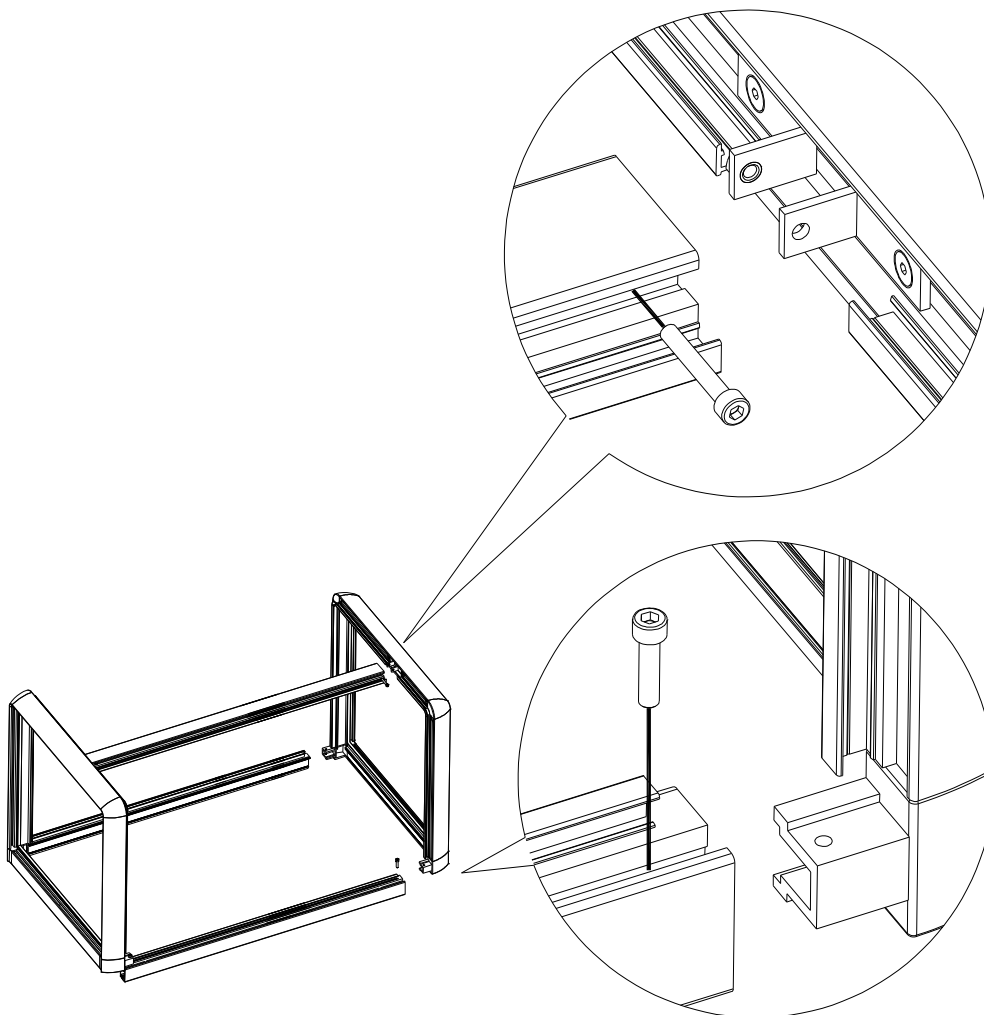

Figure 30: exploded view sound shield W-SQ6
- 2 The sound shield can be disassembled according to exploded view below (figure 30).